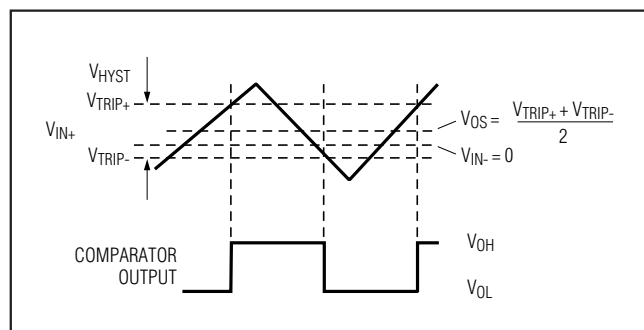

Figure 1. Input and Output Waveforms, Noninverting Input Varied
**Note 3:**  $V_{OS}$  is defined as the mean of trip points. The trip points are the extremities of the differential input voltage required to make the comparator output change state (Figure 1).
**Note 4:** The difference between the upper and lower trip points is equal to the width of the input-referred hysteresis zone (Figure 1).
**Note 5:** Propagation Delay is guaranteed by design. For low overdrive conditions,  $V_{TRIP}$  (Figure 1) is added to the overdrive.
High-speed comparators can oscillate in the linear operating region because of noise or undesired parasitic feedback. This tends to occur when the voltage on one input is equal to or very close to the voltage on the other input. The MAX976/MAX978/MAX998 have internal hysteresis to counter parasitic effects and noise. The hysteresis in a comparator creates two trip points: one for the rising input voltage and one for the falling input voltage (Figure 1). The difference between the trip points is the hysteresis. When the comparator input voltages are equal, the hysteresis effectively causes one comparator input voltage to move quickly past the other, taking the input out of the region where oscillation occurs.
Figure 1 illustrates the case where  $IN-$  has a fixed voltage applied and  $IN+$  is varied. If the inputs were reversed, the figure would be the same, except with an inverted output.